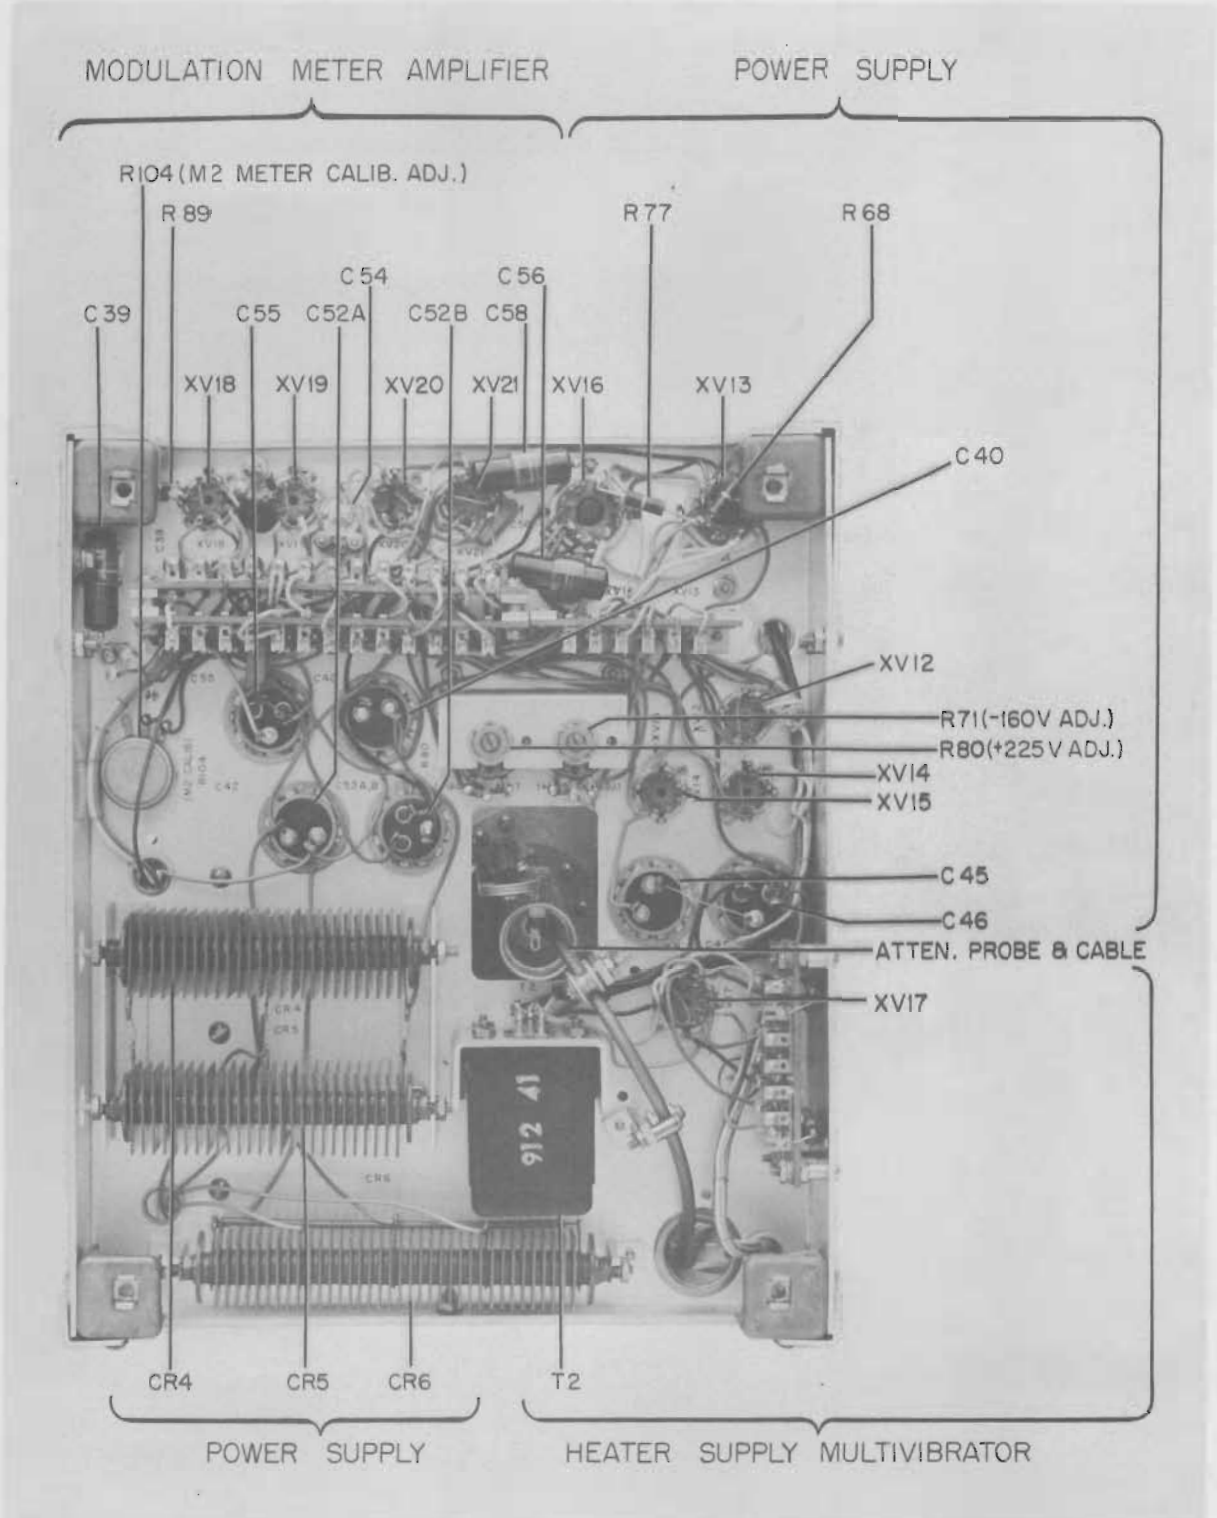

Fig. 13. Model 608D Signal Generator Rear View, Cabinet Removed
- h. Adjust R104 (see Figure 13) to provide a reading of 80% on the PERCENT MODULATION meter.